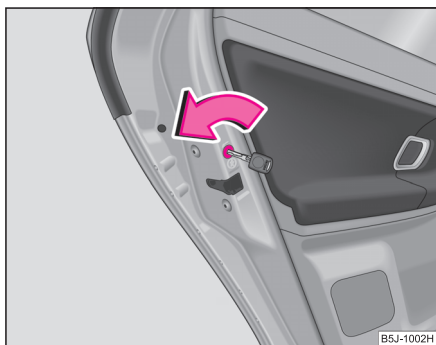

Fig. 21 Child safety locks on the rear doors
- Use the vehicle key to turn the slit in the rear door to the left in the direction of the arrow ⇒ fig. 21.